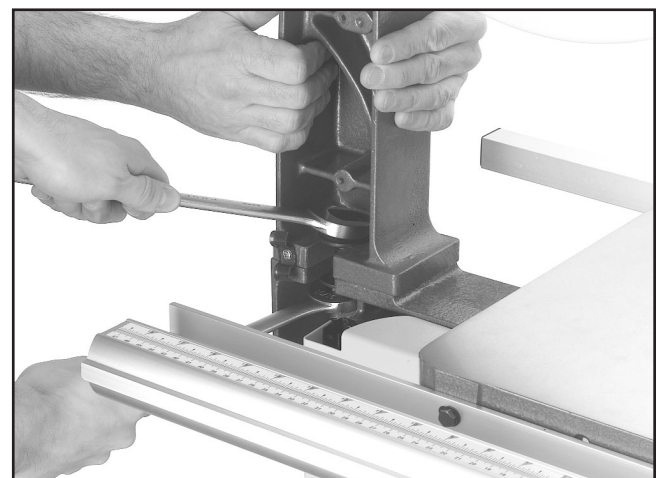

Figure 3. Loosening bolt while an assistant supports the upper arm assembly.
5. Have an assistant support the upper arm assembly (**Figure 3**), then loosen the nut and slide the bolt out. Remove the upper arm and set it aside. *Note—The upper arm is pinned to the base. If removal is difficult, carefully rock it loose.*